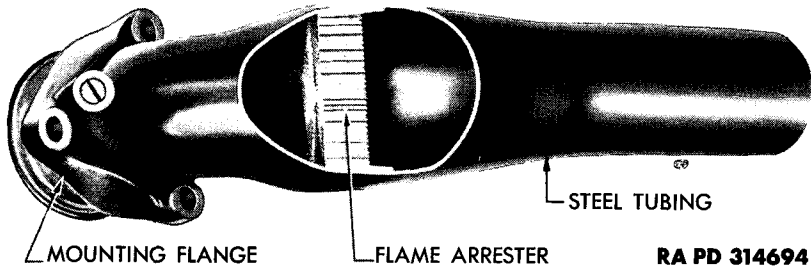

Figure 14 — Fuel Induction Tube
(7) **FUEL INDUCTION TUBES.** Fuel induction tubes are made of seamless steel tubing (fig. 14) and are joined to the distribution chamber by means of a rubber seal and gland nut. The flanged end of each tube is secured to the cylinder head, at the intake port, by three cap screws. A flame arrester designed to prevent backfire flames from entering the distribution chamber is incorporated into each fuel induction tube (fig. 14).